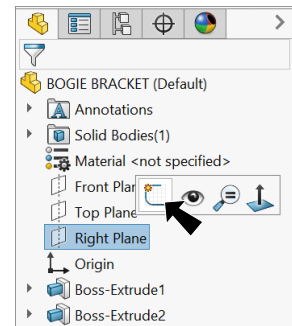
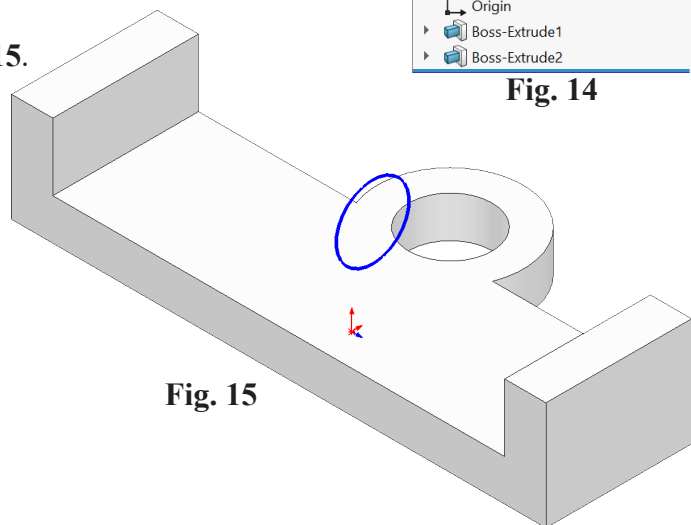

Fig. 14
Fig. 15
Step 1. Click **Right Plane**  in the Feature Manager and click **Sketch**  on the context toolbar, **Fig. 14**.
Step 2. Click **Circle**  (S) on the Sketch toolbar.
Step 3. Sketch circle above Origin , **Fig. 15**.